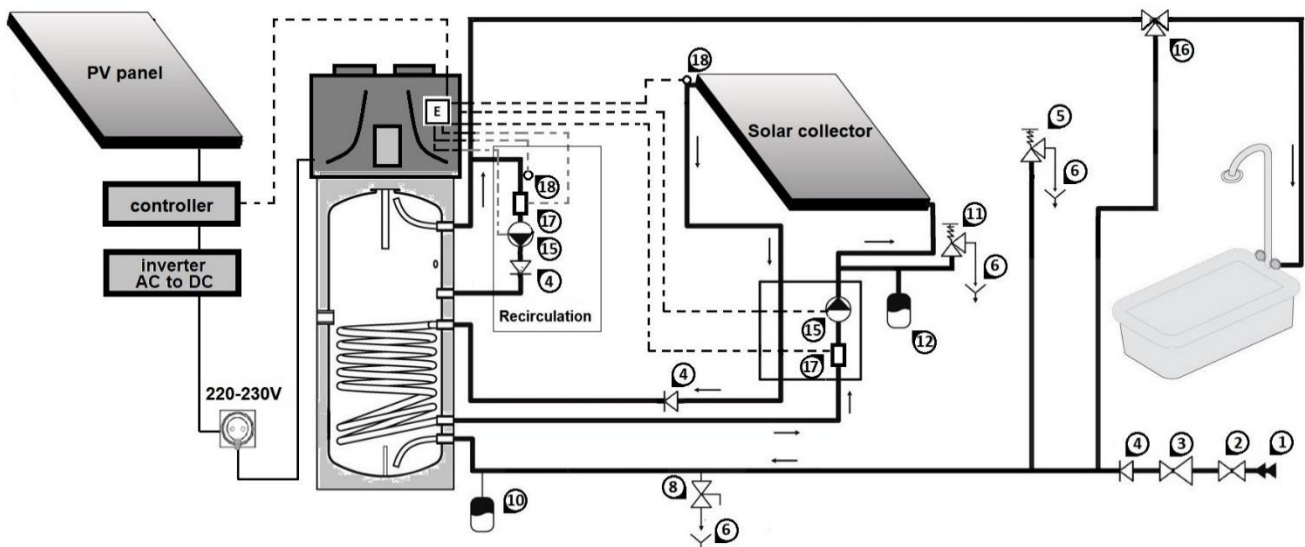
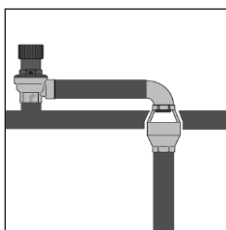

Fig. 8 Connections to the water supply net and solar collector
Fig 8a
The following illustration (Fig. 8) shows an example of a water supply connection.
- **Plastic pipes (PP) are permeable to oxygen. It is forbidden to connect the heat exchanger to system made by PP pipes as well as to open circulation system! Abusing this rule will lead to corrosion inside tube.**
- **It is obligatory for the system installer to fit an 8-bar safety valve No5 on the cold water intake pipe (Fig. 8).**
The safety equipment for protection against over pressure must be operated regularly in order to remove limescale deposits and to check that it is not blocked (Fig. 8)
The drain pipe No6, connected to the safety valve must be installed sloping continuously downwards and, in a place, where it is protected against the formation of ice (Fig. 8). Using a tundish is obligatory (Fig.8a)
An expansion vessel No10 (Fig.8) should be installed in order to absorb water expansion due to temperature variation. Pressure regulator No3 and expansion vessel should be calculated together by qualified person.
WARNING! The heat pump for the production of domestic hot water is capable of heating water up to more than 65°C. For this reason, as a protection against burns, it is necessary to install an automatic thermostat mixing equipment No16 to the hot waterpipe (Fig. 8)
Fill the boiler by opening inlet tap No2 (**Fig. 8**) and the tap hot water of your bathroom. The tank is fully filled with water, when only water without air starts leaking trough the tap in the bathroom. Check that there are no leaks from gaskets and connections. Tighten the bolts or connections where necessary;